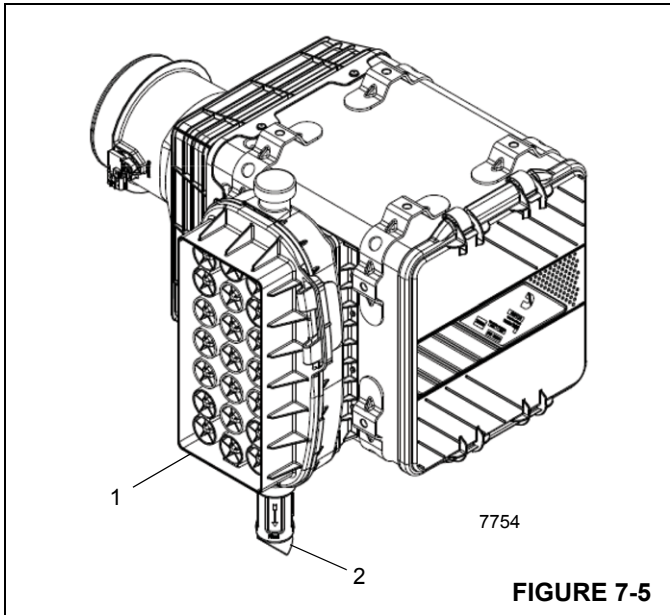
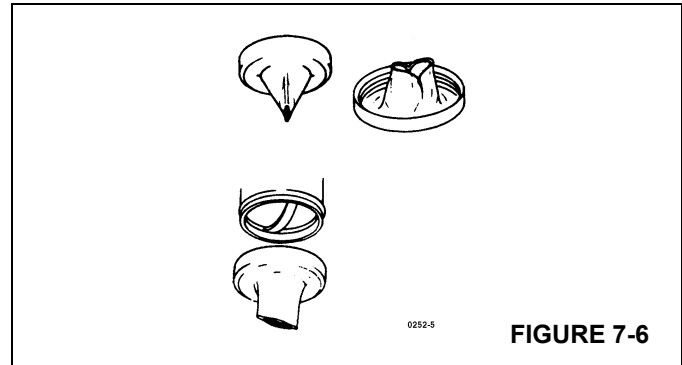

FIGURE 7-5
FIGURE 7-6
The precleaner (1) (Figure 7-5) prevents large debris from entering the air cleaner and should be cleaned periodically, especially when working in severe dust conditions. Remove the top half of the precleaner by releasing the two latches on the sides of the precleaner. Remove all debris from inside precleaner and reassemble.
Vacuator valves (2, Figure 7-5) (Figure 7-6) are designed to expel loose dust and dirt from the air cleaner body automatically, thus lengthening the element service life. The valve lips must point straight down and be kept free from debris to operate effectively. Mud and chaff can lodge in these lips periodically and hold them open during engine operation.